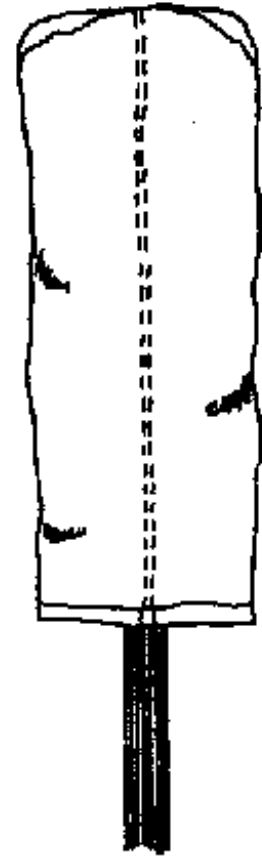

Figure 2-4
Step 9 At this point, refer to the directions by the canopy manufacturer for flaking and folding the canopy. After flaking and folding it should resemble *Figure 2-4*. (Be sure the slider is up as far as it will go against the canopy.)